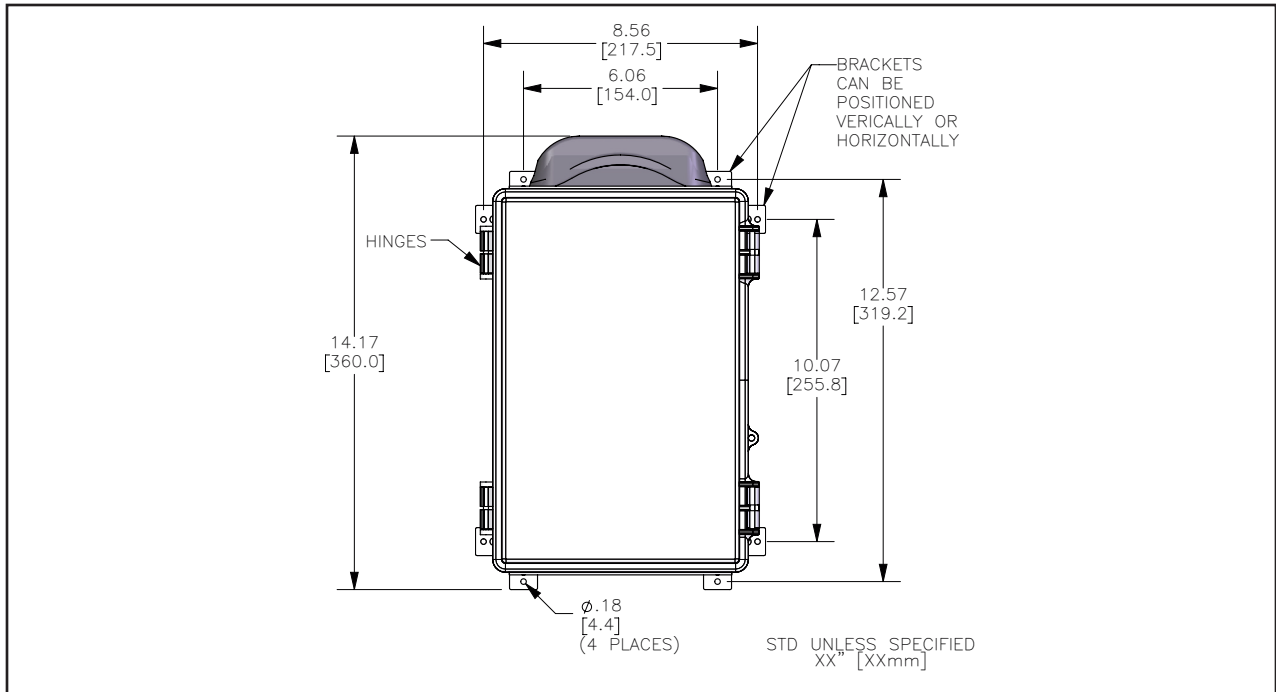

Figure 1 - Wall Mounting
SiloTrack™ CLOUD Gateway Mounting: (See Figure 1)
- 2) **Empty the Enclosure:** Open the enclosure door. Disconnect the two co-axial cables that connect the antenna to the router. Remove the (4) screws retaining the back panel. Now lift out the back panel assembly and set aside.
- 3) **Preparation:** Locate the (4) mounting brackets and screws that are provided with the **SiloTrack™ CLOUD Gateway**. Mount these to the rear of the **SiloTrack™ CLOUD Gateway**’s enclosure using screws provided. The brackets can be positioned vertically or horizontally to accommodate your mounting condition. You can use the enclosure as a template to mark the locations of the four corner mounting points. (See Figure 1)
- 4) **Cable Entries:** Before mounting to the wall, determine where the cable entries will be located. The most preferred location is along the bottom of the enclosure to minimize the chance of any moisture from entering the enclosure. The next best position is on the side, but very low. Make sure the door will open freely and not interfere with the cable fitting location. The optimum is at least (2) entries, one for power mains, and one or more for the RS-485 data lines. **NOTE:** Conduit entry or cable gland fittings should be rated NEMA 4X and or IP65 in order to maintain the NEMA 4X and IP65 rating of the enclosure.
- 6) **Mounting:** Secure the enclosure to the wall with size #10 fasteners thru the slotted holes in the mounting brackets. (See Figure 1)
- 7) **Re-install the Back Panel Assembly:** Install the back panel assembly into the enclosure, with the router in the upper most position, and secure with (4) corner screws. Re-attach the antenna co-axial cables.